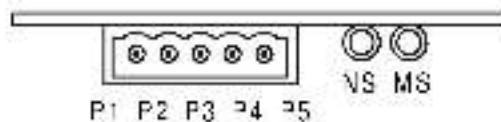

Figure 2.1 - DeviceNet Option Board End View
2.2.2.1 Use the following procedure to install the Network Communication Option Board. Refer to Figures 2.1, 2.2, and 2.3 for mounting locations.